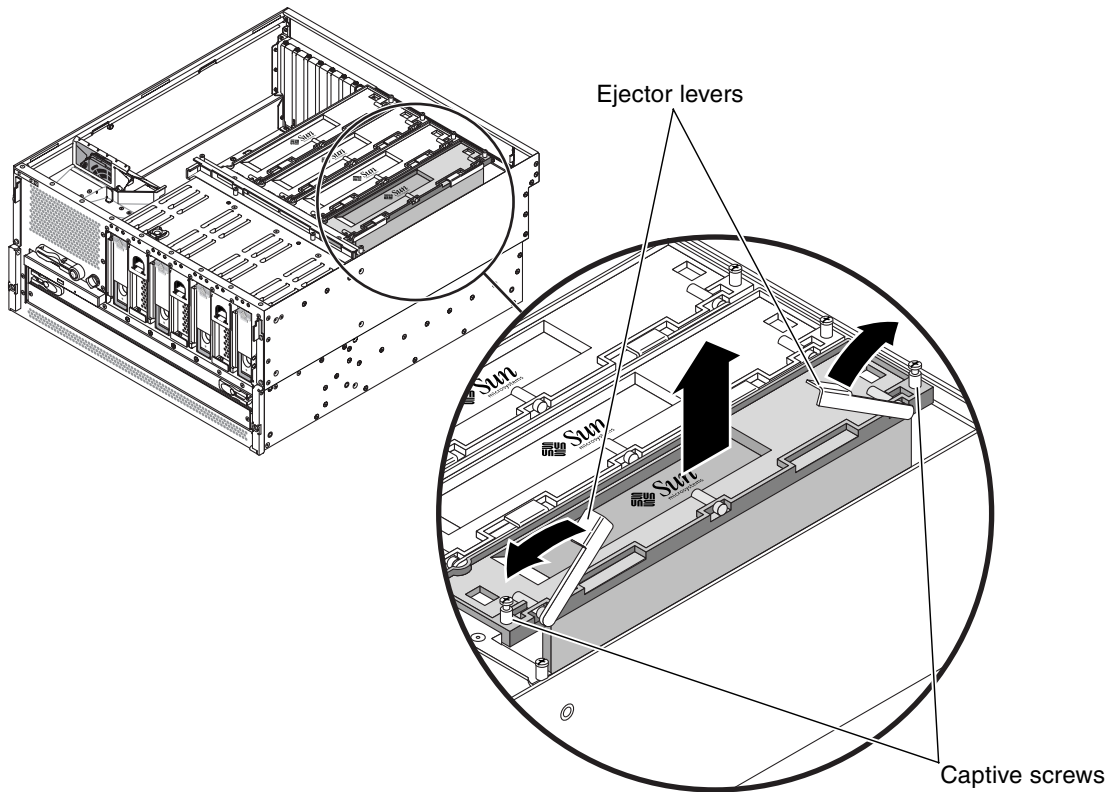

FIGURE 4-20 Removing a CPU/Memory Module
5. Loosen the two Phillips No. 2 captive screws securing the CPU/memory module to the CPU cage (FIGURE 4-20).
6. Rotate the CPU/memory module ejector levers upward so that the CPU/memory module connectors disengage from the CPU cage (FIGURE 4-20).